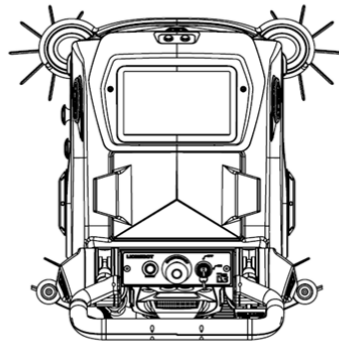

FIGURE 9-3
5. **Verify waste-water hatch is closed:** (Fig. 9-3).